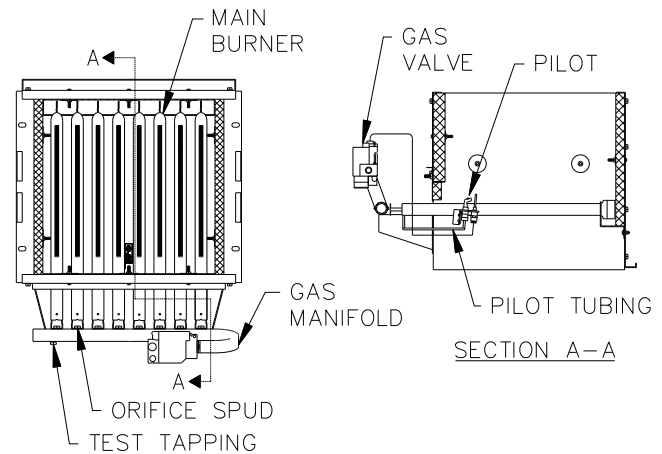

Figure 8.1: Gas, Valve, Manifold and Burner Assembly
8. Connect a manometer to 1/8 NPT tapping provided on the manifold. See Figure 8.1.
13. The gas manifold and control assembly provided with this boiler meet with all criteria regarding safe lighting and performance as specified in ANSI Z21.13 (CSA 4.9), *Gas-Fired Low-Pressure Steam and Hot Water Boilers*. The gas manifold and control assembly are made of gas-tight, completely factory assembled and installed components of the base assembly. See Figure 8.1.